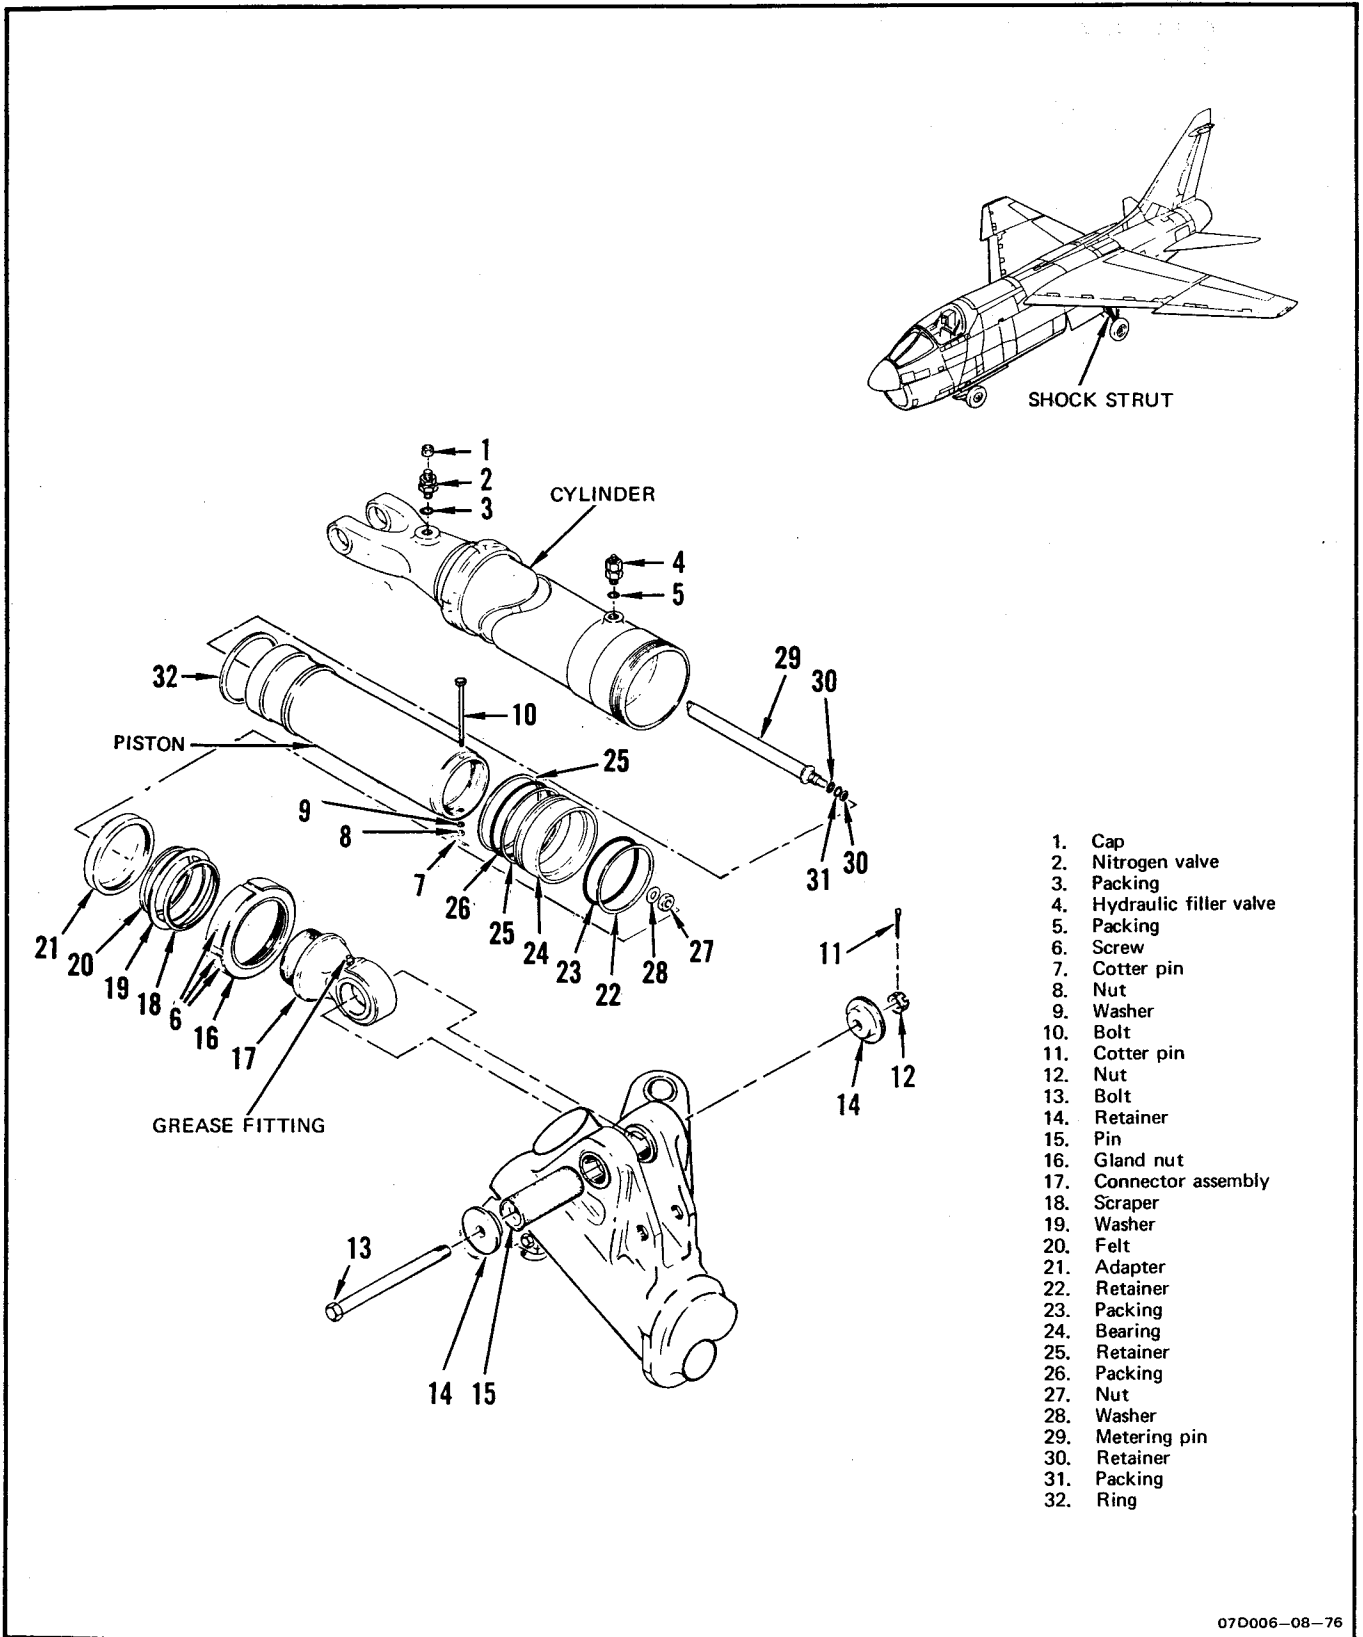

Figure 1-11. Main Gear Shock Strut Lower Seal Replacement
**1-39. MAIN GEAR SHOCK STRUT LOWER SEAL REPLACEMENT.** (See figure 1-11.)